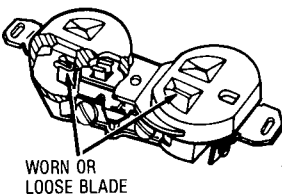

Figure 37
- Loose or worn neutral blade (large slot) on the outlet (Fig. 37).